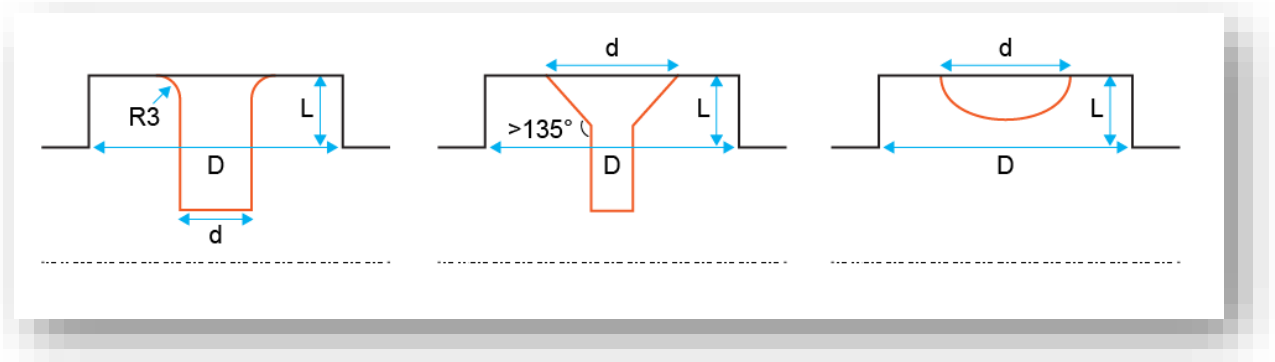

Figure 1: Different sensor designs (orange) and dimensions when placed in T-piece
In pipelines, the length of a dead leg must be less than the inner diameter of the dead leg. If the sensor protrudes into the dead leg, the length (L) of the dead leg must be $L \leq (D - d)$ (see Figure 1). The relevant diameter d of the sensor will vary depending on the design.